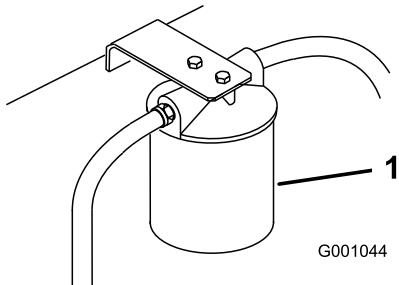

Figure 76
3. Place drain pan under filter, remove the old filter and wipe the filter adapter gasket surface clean (Figure 76).